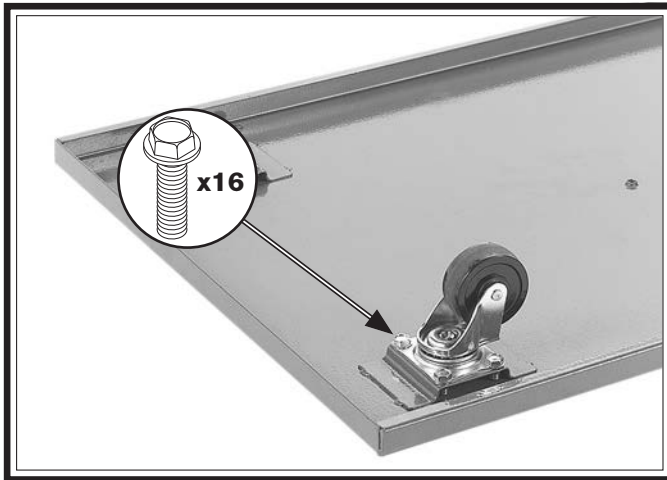

Figure 10. Example of swivel caster attached to base.
1. Attach (4) swivel casters to base with (16) $\frac{5}{16}$ "-18 x $\frac{1}{2}$ " flange bolts (see **Figure 10**).